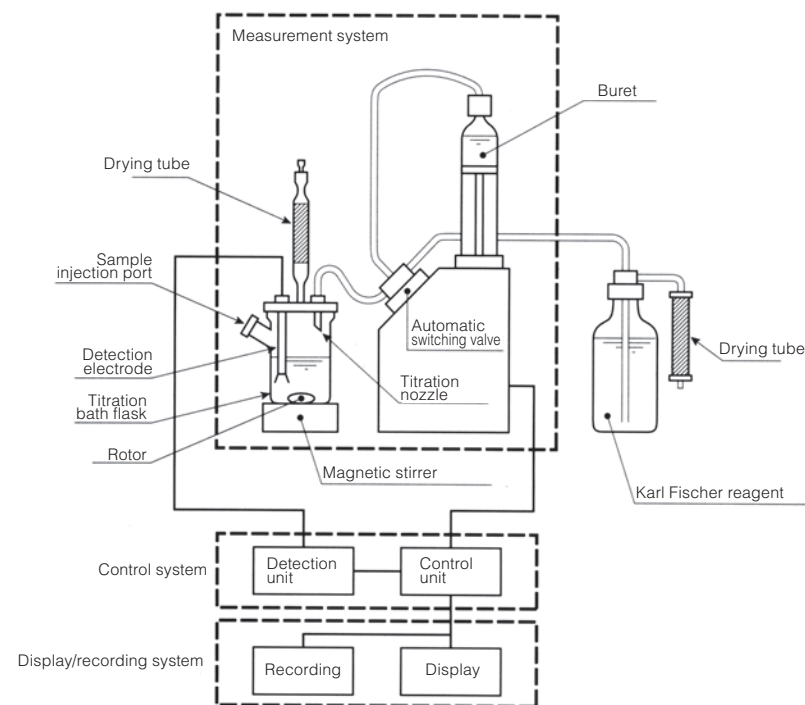

Figure 1: Automatic Volumetric Moisture Titration System
- A dehydrated solvent suitable for the sample is placed in a flask attached to an automatic volumetric moisture meter (Figure 1).